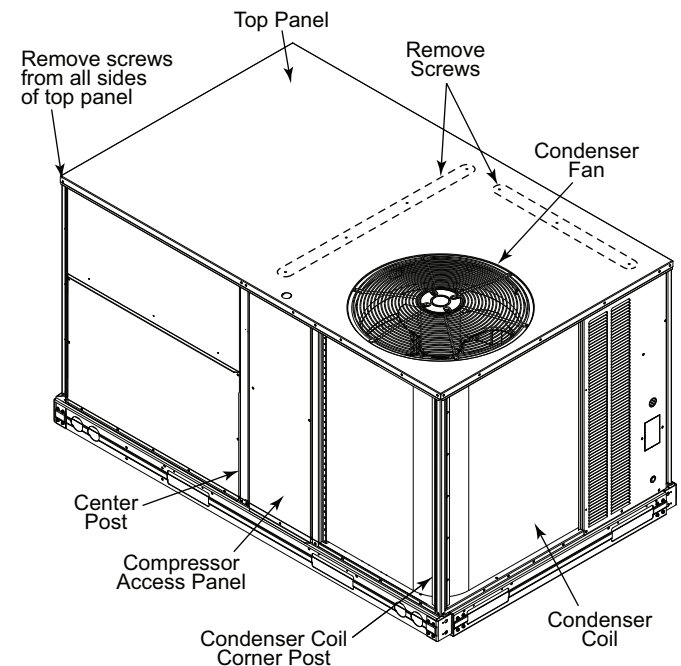
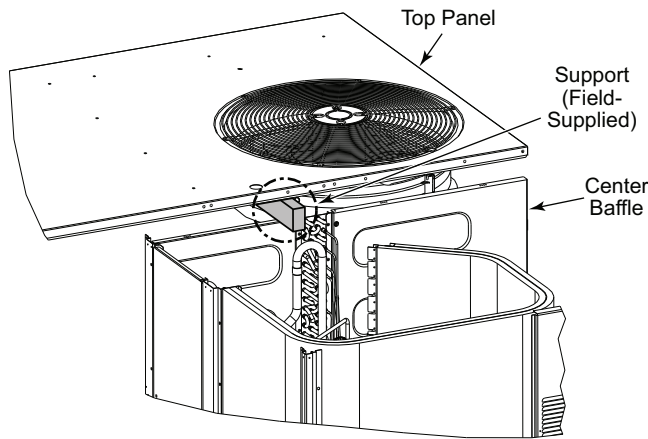

Fig. 19 — Location of Screws and Coil Corner Post
Fig. 20 — Propping Up Top Panel
2. Remove all screws from the top panel except the screws securing the condenser fan to the top panel. See Fig. 19.
3. Remove condenser coil corner post. See Fig. 19. To hold top panel open, place coil corner post between top panel and center post. See Fig. 20.